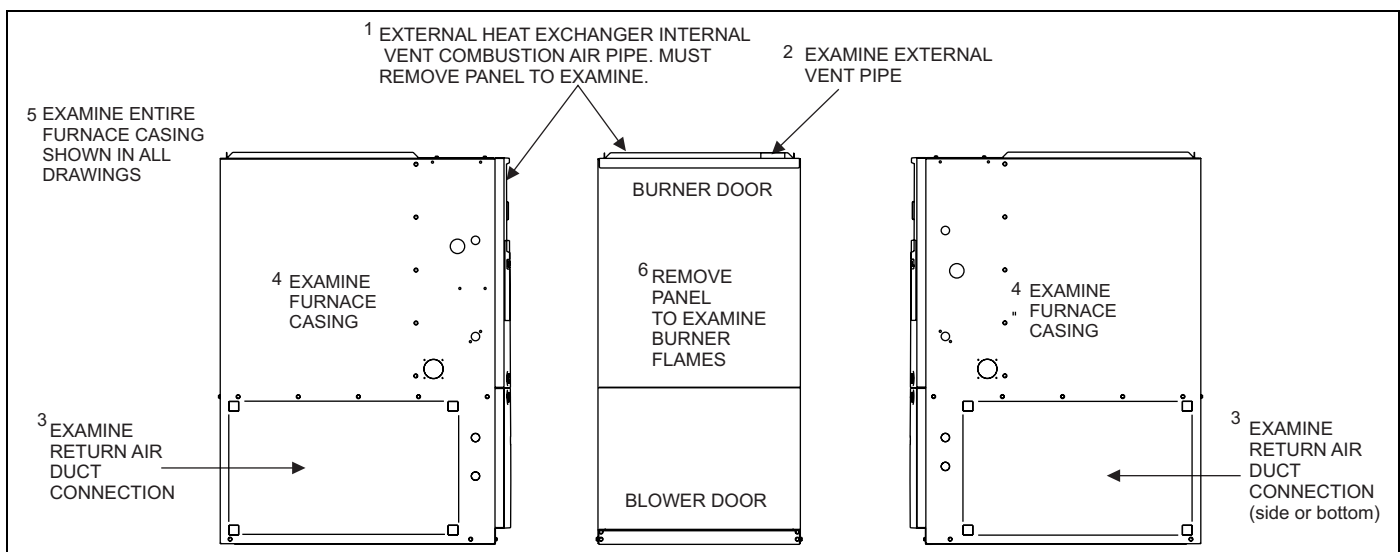

FIGURE 3: Furnace Examination Checkpoints
7. Examine the furnace as outlined above in steps "1 - 6" before each heating season. Use Figure 3 for visual reference.